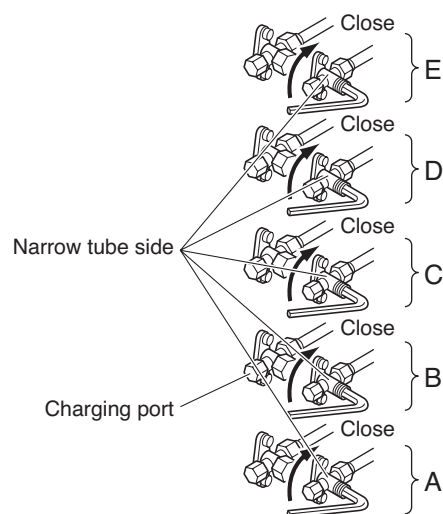

Fig. 22
- (1) Fully close the spindles at the valves on the narrow tube side of tubes A, B, C, D and E. (Refer to Fig. 22.)